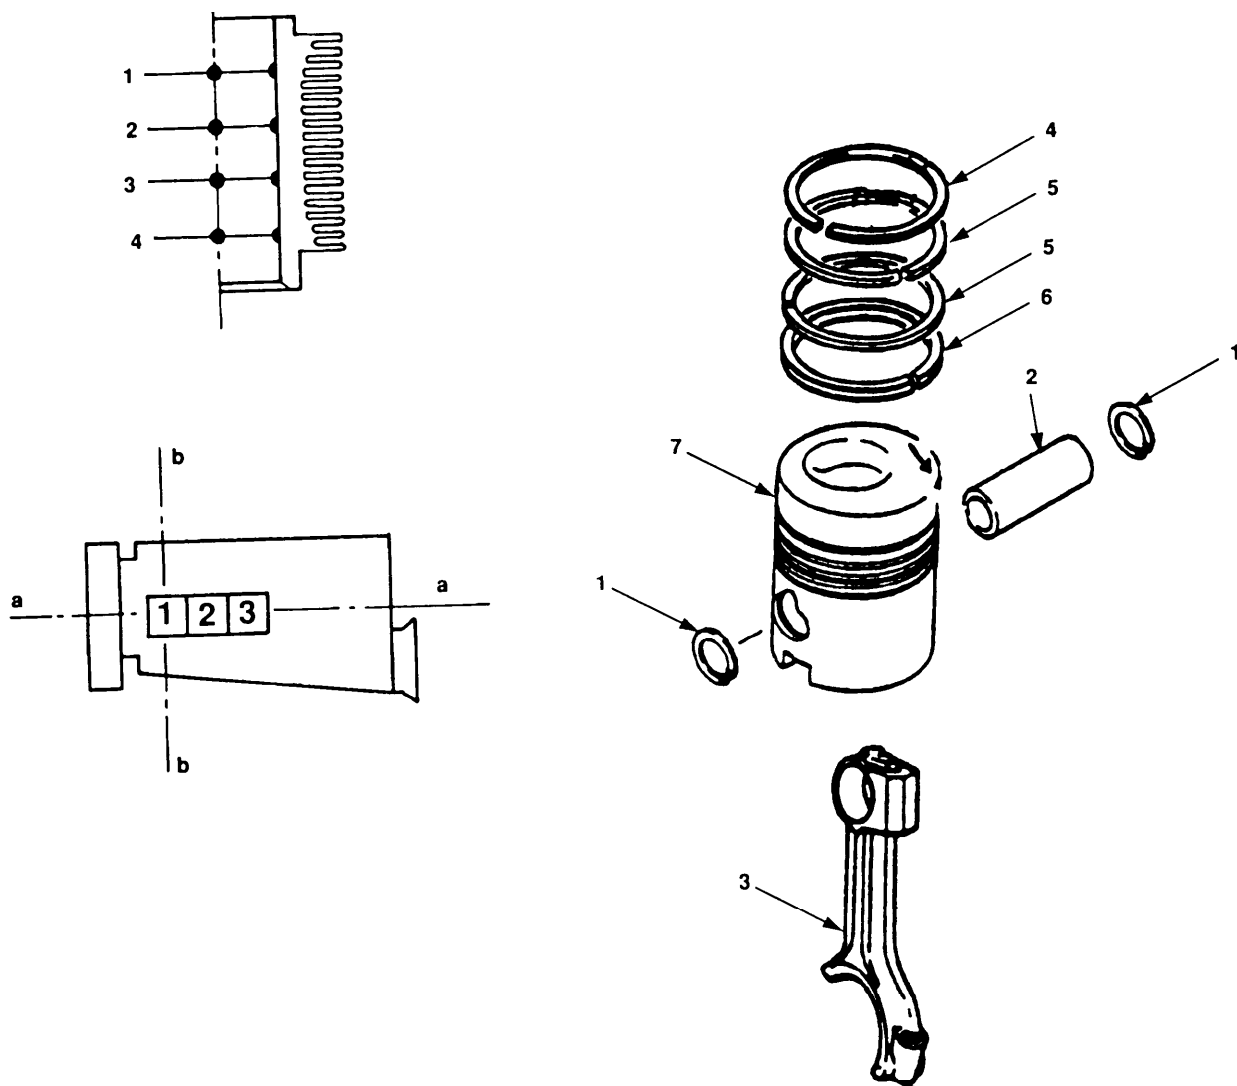

Figure 6-16. Piston Disassembly.
- a. Remove retaining rings (figure 6-16, 1) and withdraw piston pin (2) .
- b. Remove piston and rings from connecting rod (3) .
- c. Using piston-ring expander, remove trapezoidal ring (4) and two taper piston rings (5).
- d. Open and remove oil control ring (6) from piston (7).
- e. Install expander spring for bevelled scraper ring in bottom groove on piston (7) .
- a. Press piston pin (2) into piston bosses and small end of connecting rod (3).
- b. Install second retaining ring (1) to secure piston pin (2).
- (1) Using inside micrometer, gauge cylinder bore at levels 1 to 4 of engine center line "a" as well as cross-line "b" see figure 6-16.
- (2) Readings should be 3.937 inches (100 mm). If not within plus 0.0079 inch (0.2 mm) replace parts concerned.